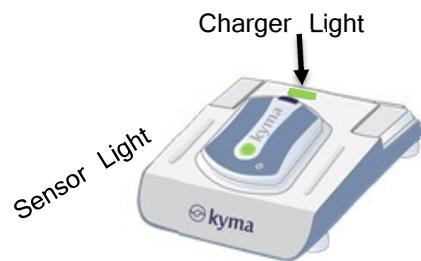

Figure 12: Sensor Charging
3. Position the Patch on the upper left chest, just below the collarbone, and angle the device towards the nipple. The arrow on the Patch should point up (↑). See **Figure 12**.